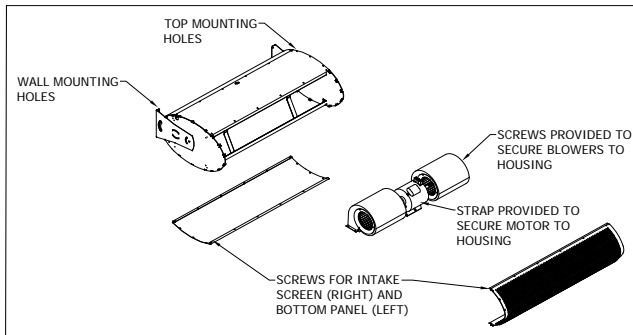

FIG. 2
4. If the motor is rotating incorrectly, switch two of the 3 phase power or motor leads and the motor will rotate the opposite direction. Make sure all motors are turning in the same and proper direction. (FIG. 2)